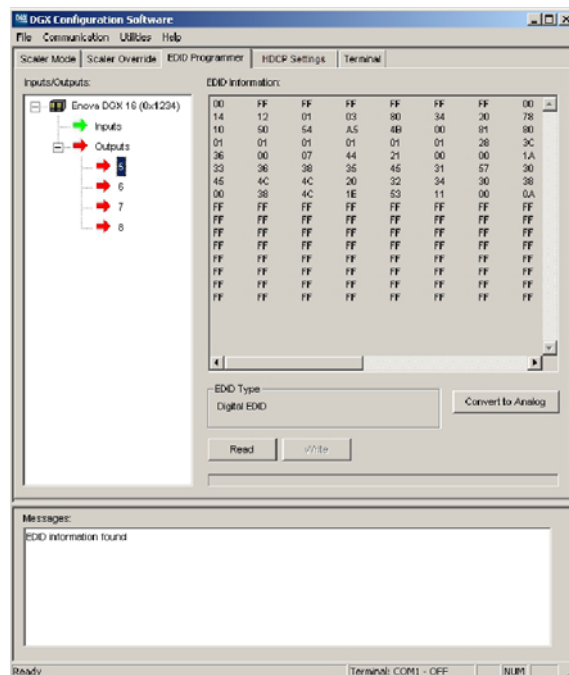

FIG. 166 EDID Programmer view
1. On the PC, open the DGX Configuration Software and select the EDID Programmer tab (FIG. 166):